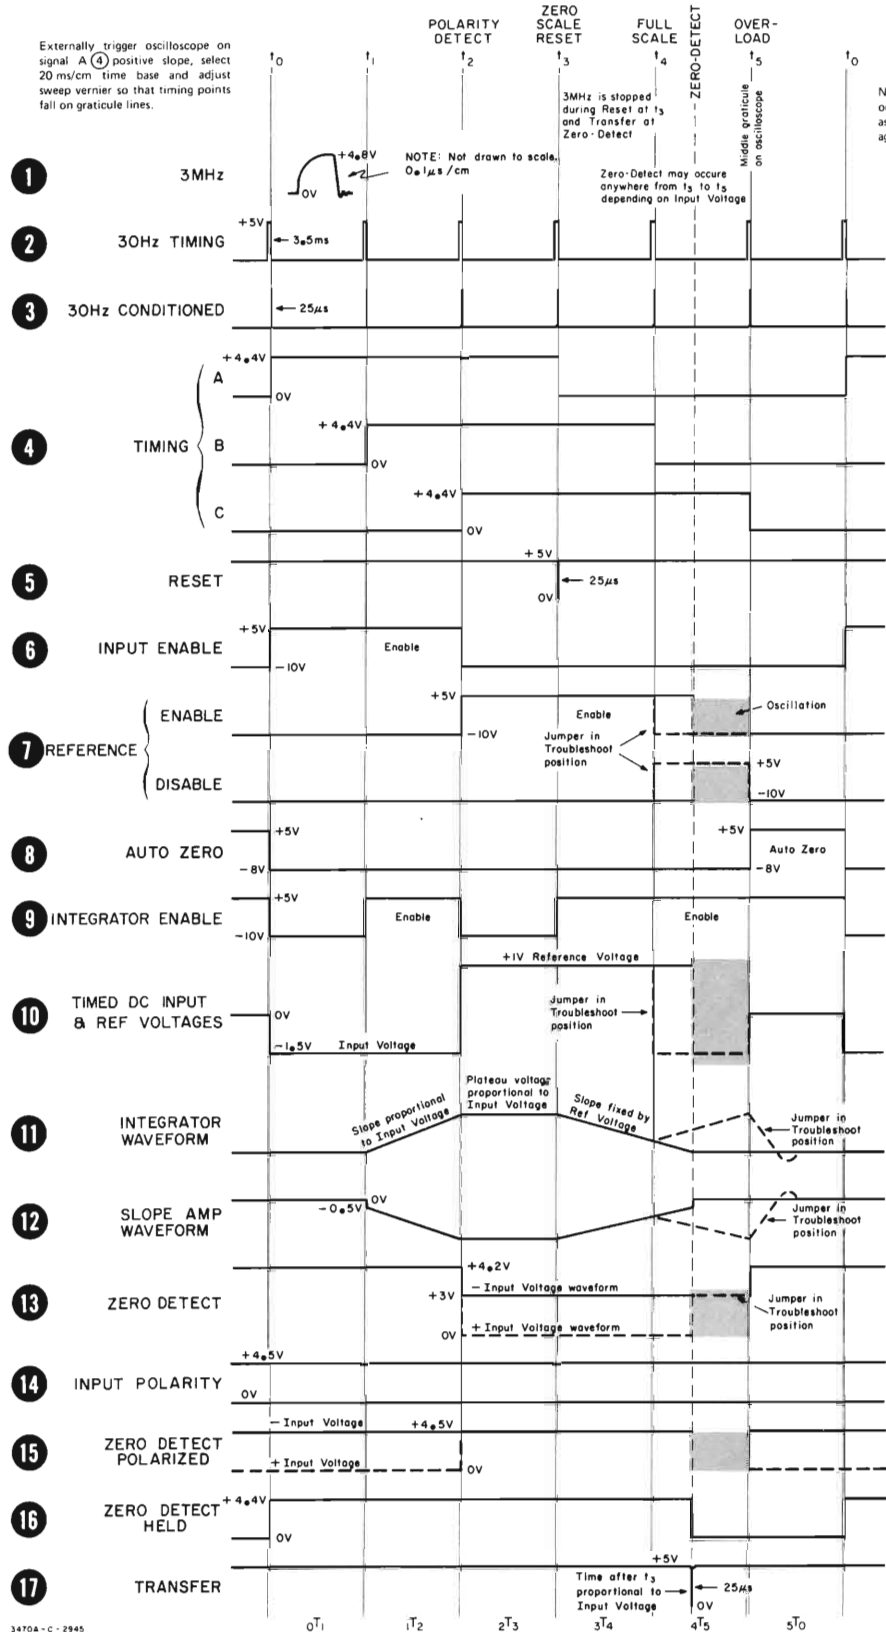

Figure 7-3. Timing Diagram.
7-8. Table 7-1 and Signal Development Diagram Figure 7-2 show which of the 27 major signals directly develop each of the 27 signals. Each signal is described in Figure 7-3 or 7-4 so that it may be determined to be correct or incorrect. Table 7-1 lists the components that may be faulty when a signal is found to be incorrect but its developing signals correct.
4. Refer to the Signal Development diagram Figure 7-2 and Table 7-1, and begin checking signals according to Figures 7-3 and 7-4. Good starting points are signal (11) and timing signals A, B and C at (4) .